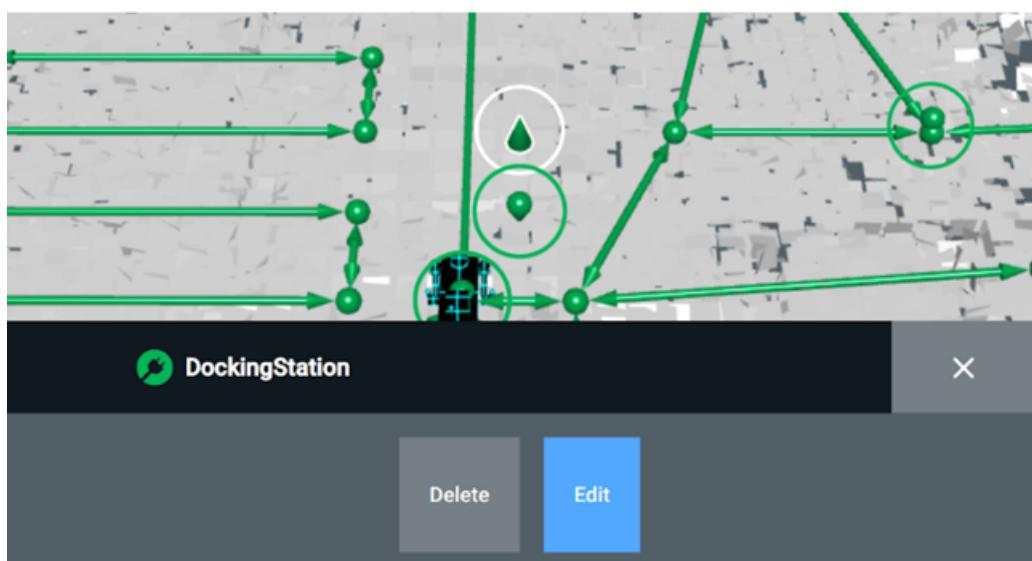

Figure 34 - Overview page
2. From the overview page (see Figure 34), select **Edit**.